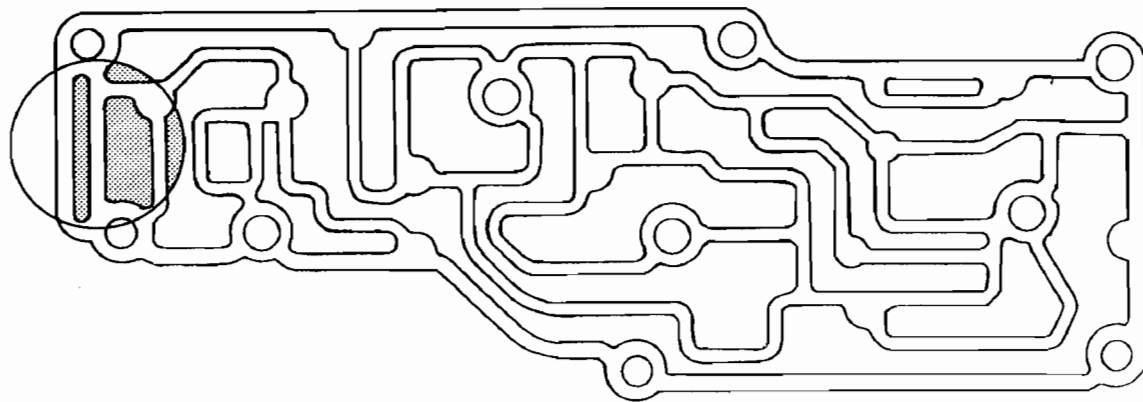

Figure 15
- (5) LOWER VALVE BODY - The engagement control valve retaining clip on 1989 models, was replaced by bore plug and new design clip on the 1990 model, which also changed the worm track configuration in that area, as shown inside the circles in Figure 15. The lower valve body can also be identified by the rough forging number cast in valve body.